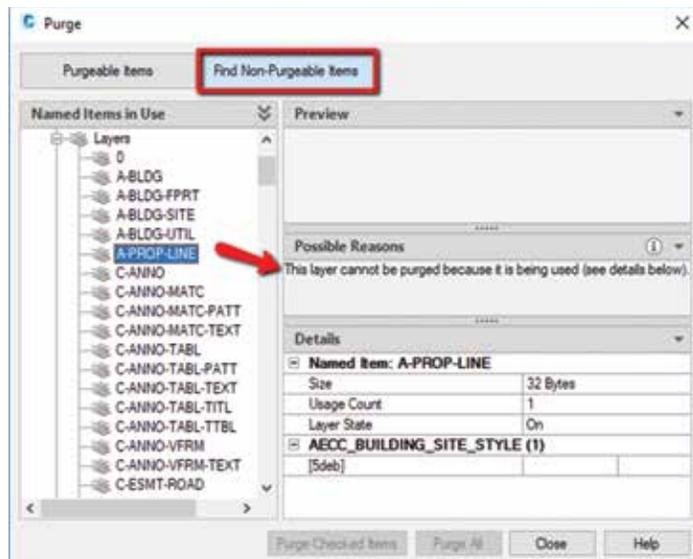

Figure 3
- **Purge Redesign:** The Purge feature has been redesigned for easier drawing cleanup. Remove multiple unneeded objects at once with easy selection and a visual preview area. There is a “Find Non-Purgeable Items” button with a Possible Reasons section, to understand why certain items can’t be purged (Figure 3).